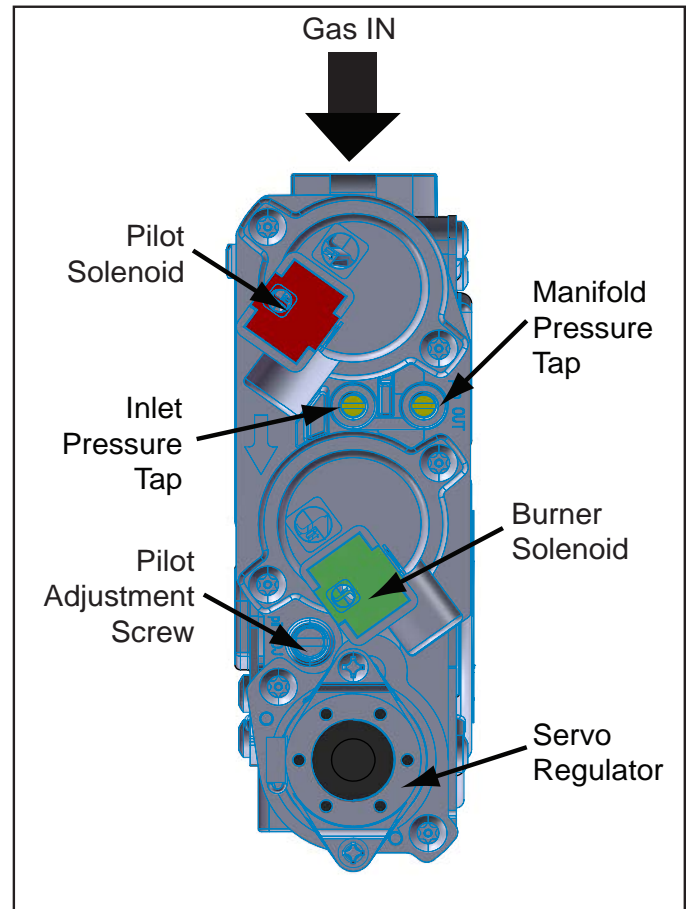

Figure 37: Fully Labeled Gas Valve.
The pressure taps are located on the valve shown in Figure 37.
1. The adjustment screw can be reached through the front of the unit using a 10 inch long blade head screw driver (see Figure 37 for location on valve).